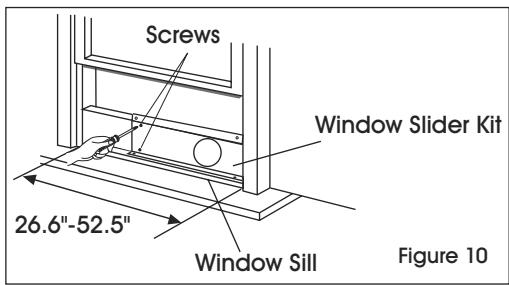
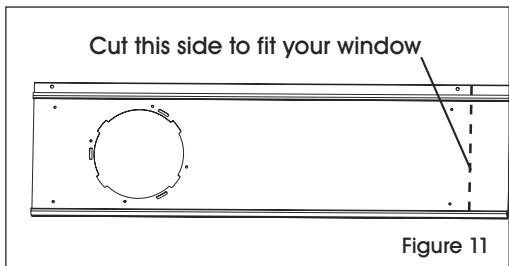

Figure 10
Figure 11
2. Open the lower sash and place the window slider kit on the window sill. (See Figure 10) Adjust the length of the window slider kit according to the width of window. Screw down the two screws on the window slider kit. (See Figure 10) Cut the adjustable window slider kit if the width of window is less than 26.6". (See Figure 11)